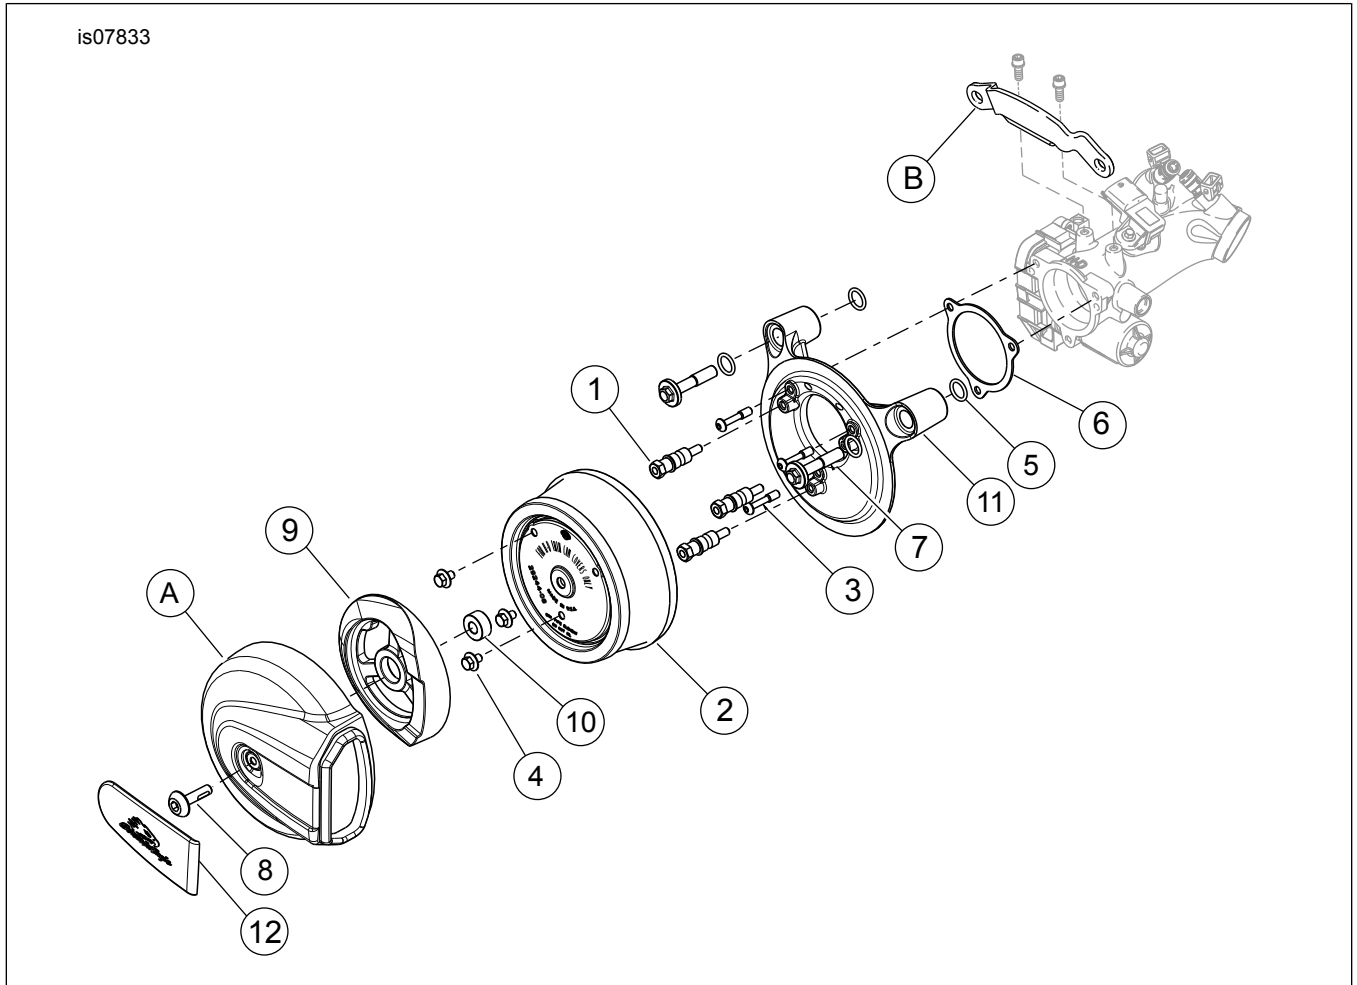

Figure 1. STAGE I AIR CLEANER
See Figure 1 and Table 1.
2. See Figure 1 and Table 1. Remove stock air cleaner cover (A). Discard remaining parts.
4. Remove and discard support induction module bracket (B).
1. See Figure 1. Peel the protective strip off the gasket (6) and place the adhesive side onto the backplate (11). Align to the equally spaced screw holes, and position the gasket carefully before firmly pressing the gasket into place.
2. Install two O-rings (5) from kit in grooves around breather screw holes on induction module side of backplate assembly. Install two O-rings (5) from kit in grooves in underside of head of breather screws (7).
3. Insert new breather screws (7) through the backplate (11).
6. Thread backplate screws (3) all the way through the backplate (2) until the screw threads are exposed on back side of backplate. Apply Loctite 243 (blue) to backplate screw threads.
8. Thread air cleaner element mounting studs (1) into the backplate (11). Do not tighten completely at this time.
9. Alternately tighten two breather screws (7) to 13.6–16.3 N·m (120–144 **in-lbs**).
10. Tighten three backplate screws (3) to 6.2–6.8 N·m (55–60 **in-lbs**).
11. Tighten three element mounting studs (1) to 6.2–6.8 N·m (55–60 **in-lbs**).
*Whenever the air cleaner cover is installed, apply Loctite 243 (blue) to the air cleaner cover screw (B).*
1. See Figure 1. Secure air filter element (2) to air cleaner mounting studs (1) using screws (4). Tighten screws to 6.2–6.8 N·m (55–60 **in-lbs**).
2. Carefully remove and discard the original air cleaner cover insert from air cleaner (12). Remove any residual adhesive on the cover with mineral spirits.
*This is a dry air filter (2). Do not apply oil to the filter element.*
1. See Figure 1. Remove air cleaner and inspect the filter element (2) every 8,000 km (5000 mi) or more often under dusty conditions.
3. Install air cleaner insert (12).